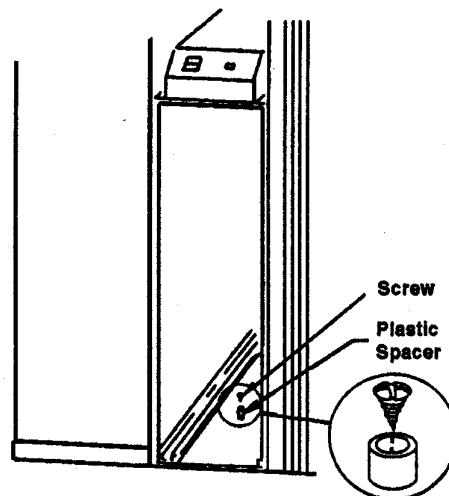

Figure 5
1. Remove the prefilter(s) and cells from the cabinet. A plastic positioning spacer is located inside the bottom of the cabinet. This spacer is secured to the cabinet using a #6-32 round head Phillips drive thread cutting screw to allow installation of the cells in the proper position with respect to air flow (Figure 5).